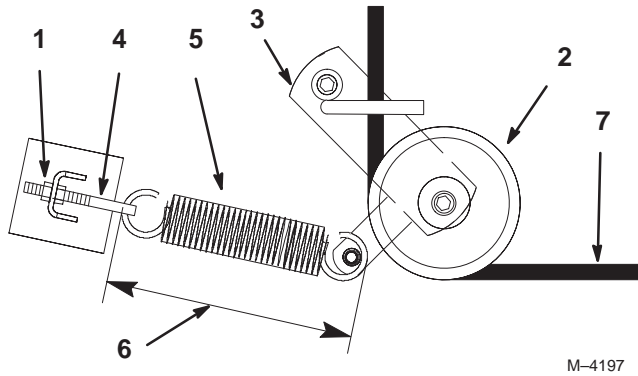

Figure 65
4. Loosen outer nut on spring eye bolt (Fig. 65).
6. Remove spring loaded idler pulley (Fig. 65).
7. Route new belt through idler arm (Fig. 65).
9. Retighten outer nut on spring eye bolt (Fig. 65).
Note: Check spring length. The spring should measure 9-3/8 inch \pm 1/8 inch (238 mm \pm 3 mm) when installed. Adjust if it does not (Fig. 65).